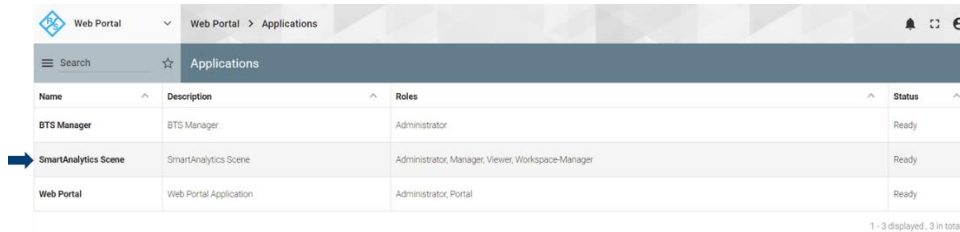

Fig. 2-2 Launch SmartAnalytics
2. After log onto the SmartAnalytics Web portal, click on "SmartAnalytics Scene" (Fig. 2-2)